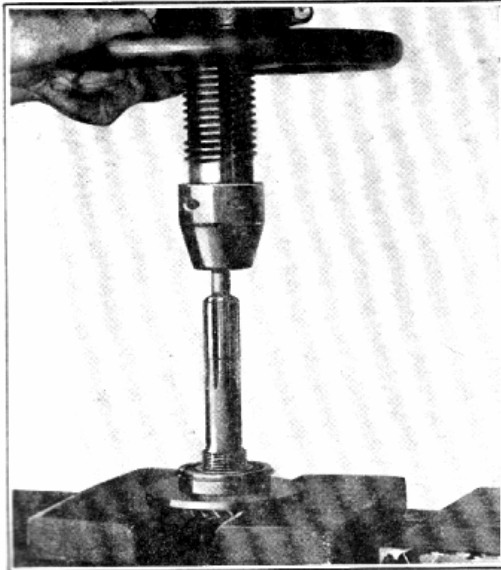

Fig. 4—Removing Clutch Gear Bearing
7. To remove the reverse idler, drive out reverse gear idler shaft (20) front to rear and lift out the gear assembly (38).
8. To remove the countershaft (27) and gear assembly, drive the countergear assembly to the rear to remove the rear bearing (22). Remove the countergear assembly out through the top of the case and drive out the countershaft front bearing (36) and spacer (37) by tapping around the outer race of the bearing.
9. The main drive gear bearing (39) and the main shaft bearing (21) must be removed by supporting the inner race of each bearing on an arbor press, and pressing on the end of the shaft until it is free of the bearing. It will be necessary to remove the snap ring (3) using snapping pliers similar to J-1466, before pressing the main drive gear bearing from the shaft, Fig. 4.